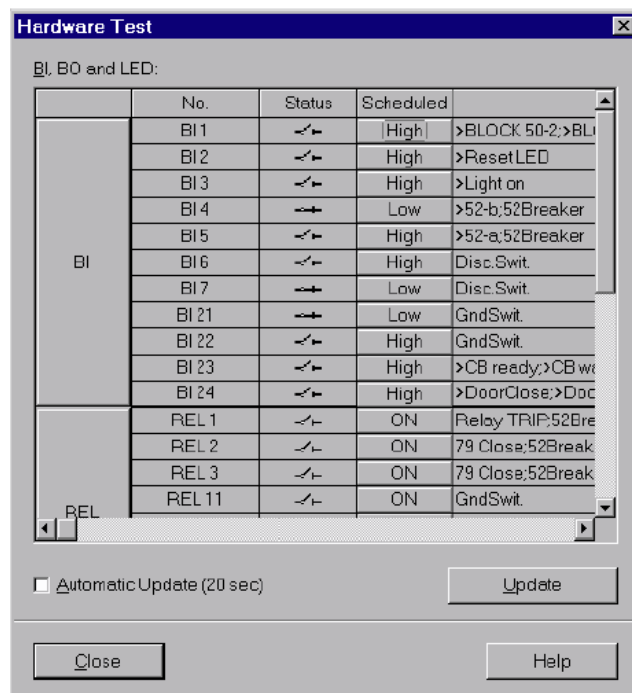

Figure 3-30 Test of the Binary Inputs and Outputs — Example
- Double-click in the list view on **Device inputs and outputs**. The dialog box with this name is opened (see Figure 3-30).